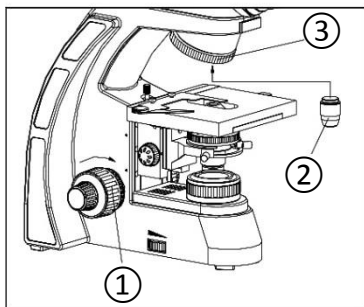

Fig. 2
Rotate the coarse focusing knob ① to lower the stage to a suitable position (see Fig. 2).